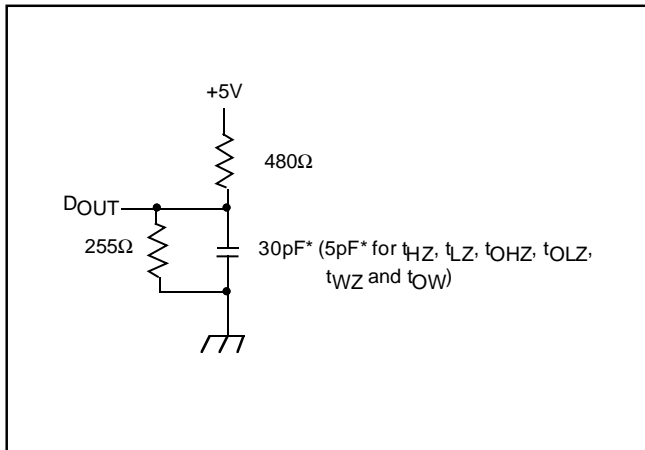

Figure 1. Output Load
- 9. Transition is measured  $\pm 200mV$  from steady state voltage prior to change, with loading as specified in Figure 1.
Output Load	See Figures 1 and 2